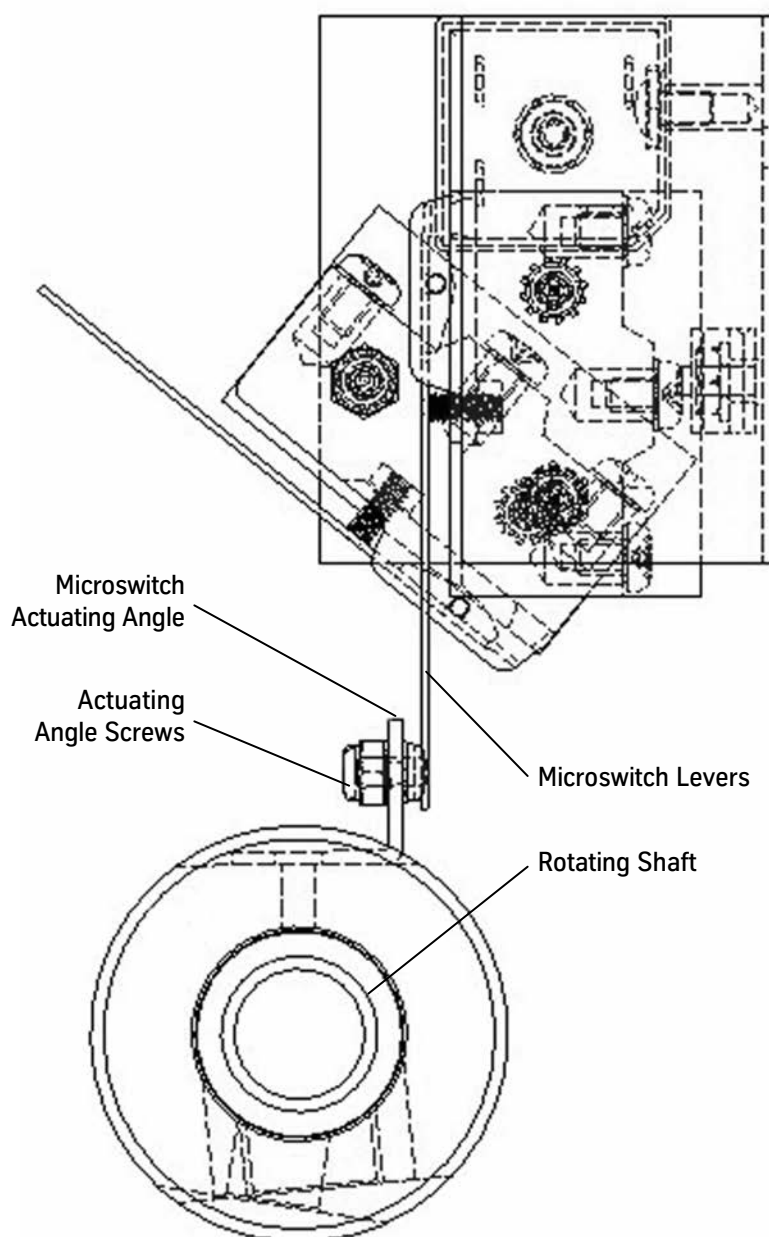

Figure 10 - Actuating Angle
7. To make the pump run longer, adjust the screw outwards in $\frac{1}{4}$ turn increments. See Figure 10.